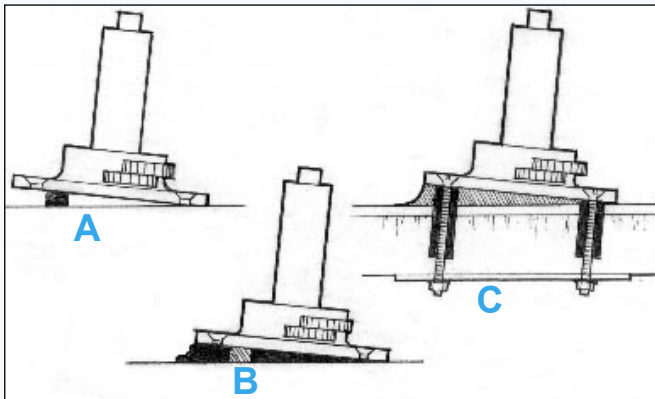

Figure 19 Support the base in position with blocking - apply enough thickened epoxy to fill the void.
2. Bond small blocks to the substrate to support the base at the desired height and position (*e.g., winch base, Figure 19"A"*).
4. Place the hardware in position, resting on the blocks (*Figure 19"B"*) and install the fasteners.
5. Smooth the excess epoxy into the desired fillet shape around the base (*Figure 19"C"*). Allow the epoxy to cure fully before loading. Protect exposed epoxy from UV. (*see finish coating page 29*).